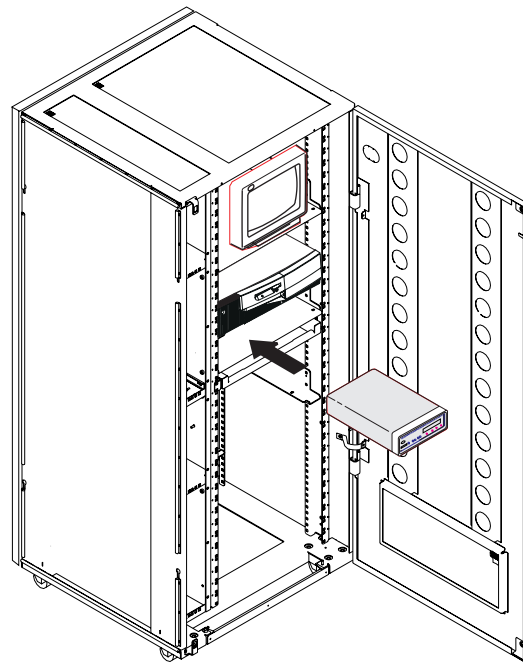

Figure 1-23. Installing the 7858 in the Controller Expansion
3. ____ Slide the 7858 in the controller expansion as shown in Figure 1-23.